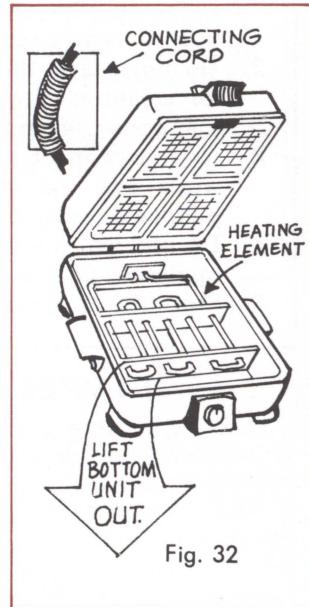

Fig. 32
Remedy: Disassemble and repair in the same manner as any other cord. Fig. 32.
3. Cause: Heating coil burned out. Fig. 32.